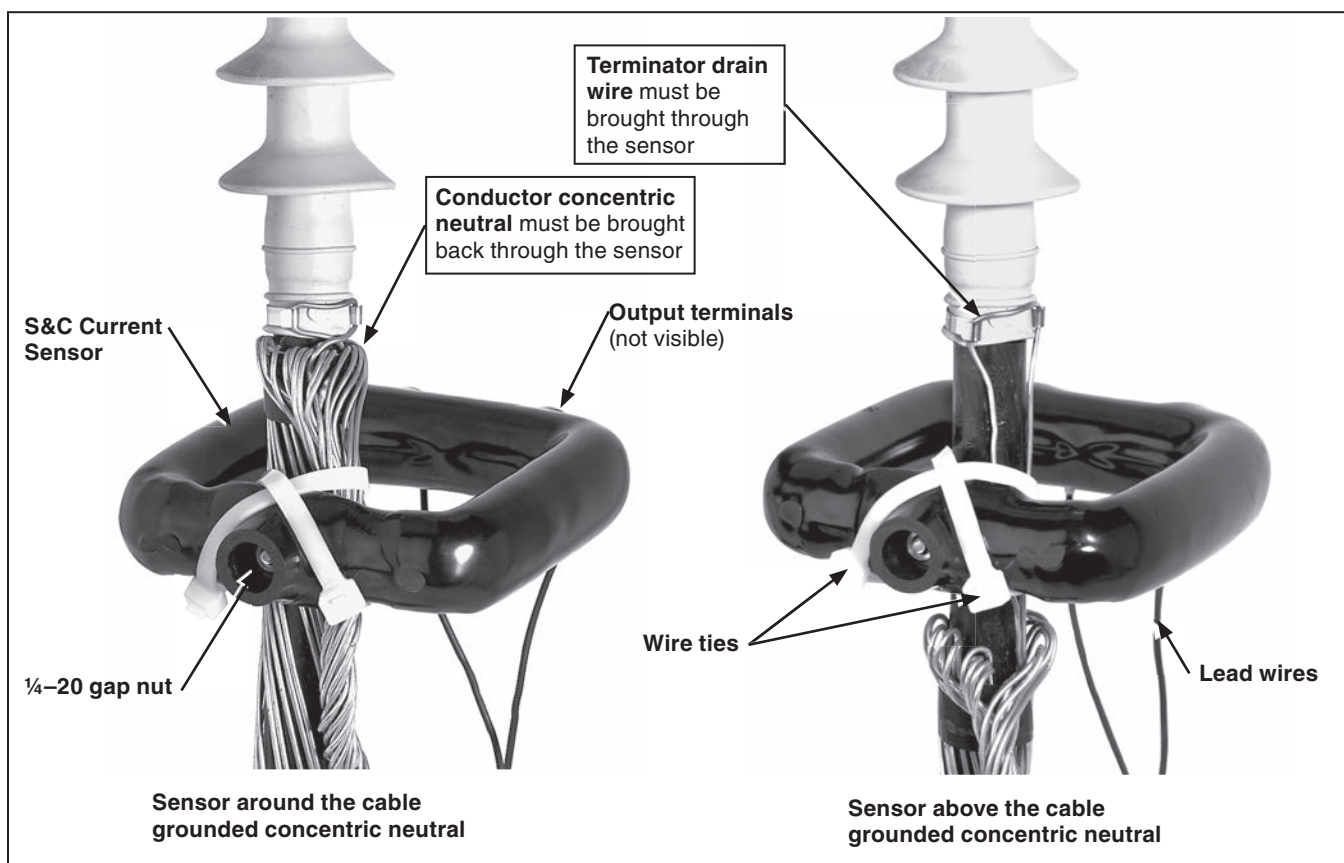

Figure 10. The typical method for attaching an S&C Current Sensor to high-voltage cable.
- (b) Secure the current sensor to the high-voltage cable at a point below the cable terminator or stress cone using the plastic wire ties furnished. See Figure 10. The current sensor may be placed against the cable grounded concentric neutral and the concentric neutral must be brought back through the sensor or it may be placed against the cable semiconducting jacket and the terminator drain wire must be brought through the sensor.